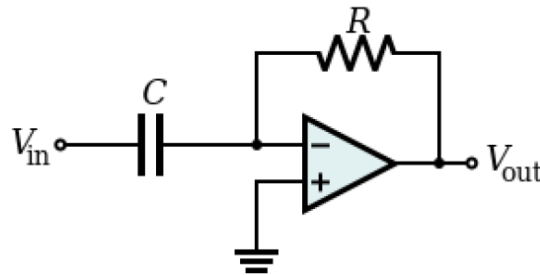

Figure C-1.
*Ideal differentiator:* Figure C-1 shows an *ideal differentiator*. Its behavior is governed by the following equation: